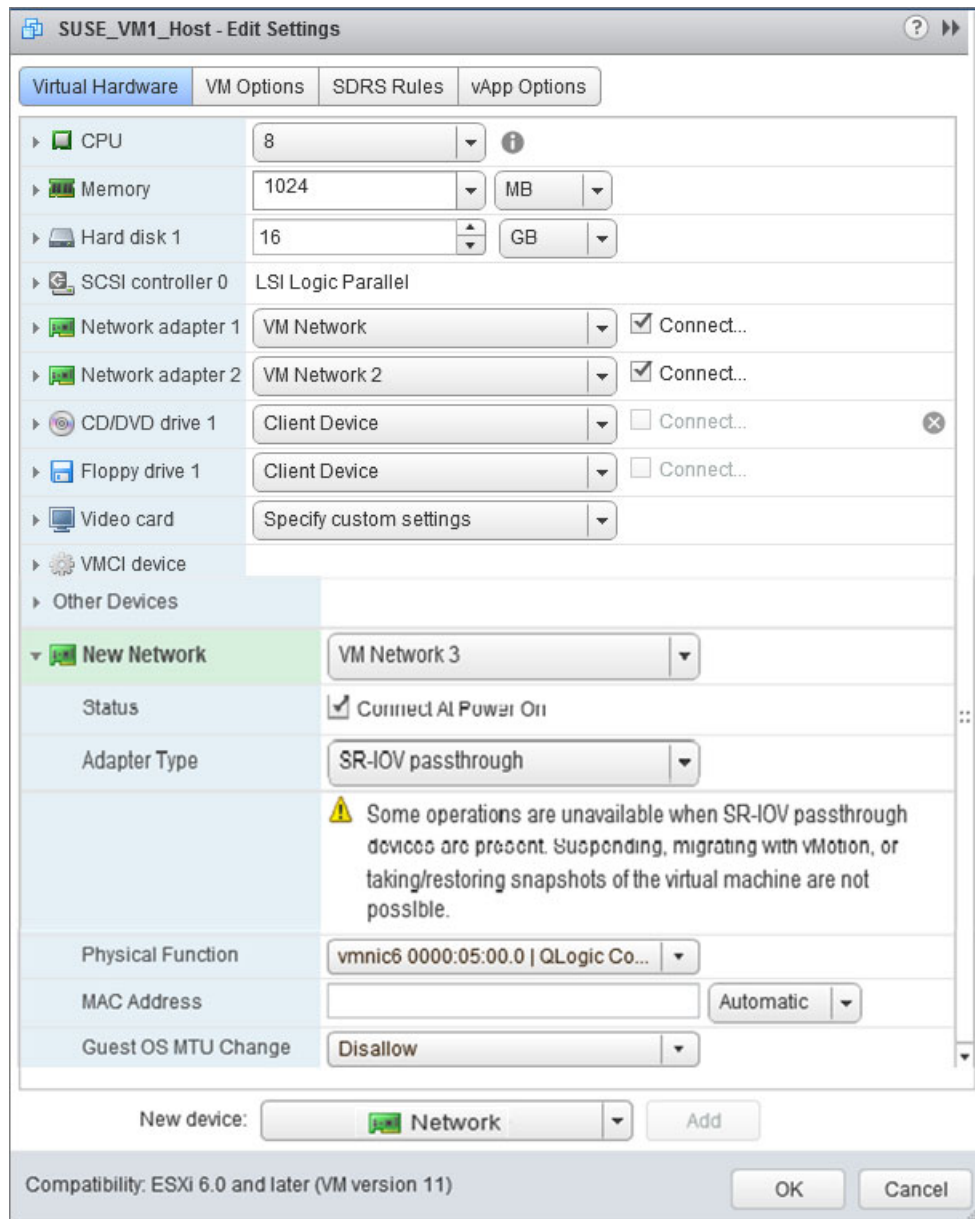

Figure 12-15. VMware Host Edit Settings
14. Complete the Edit Settings dialog box (Figure 12-15) as follows: